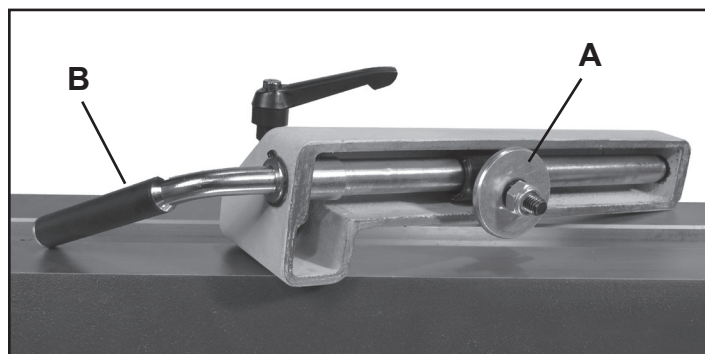

FIG. 12
If adjustments are needed, the clamping pressure can be changed by turning the large Hex Nuts (#16C & 11D) that are located under the lathe bed and below the assemblies. This is done with a 16mm (5/8") or adjustable wrench (not included). FIG. 12 shows the tool rest removed from the lathe bed to view the locking mechanism and Hex Nut (A).
1. Loosen the Locking Handle (B) so that there is no clamping pressure being exerted on the lathe assembly.